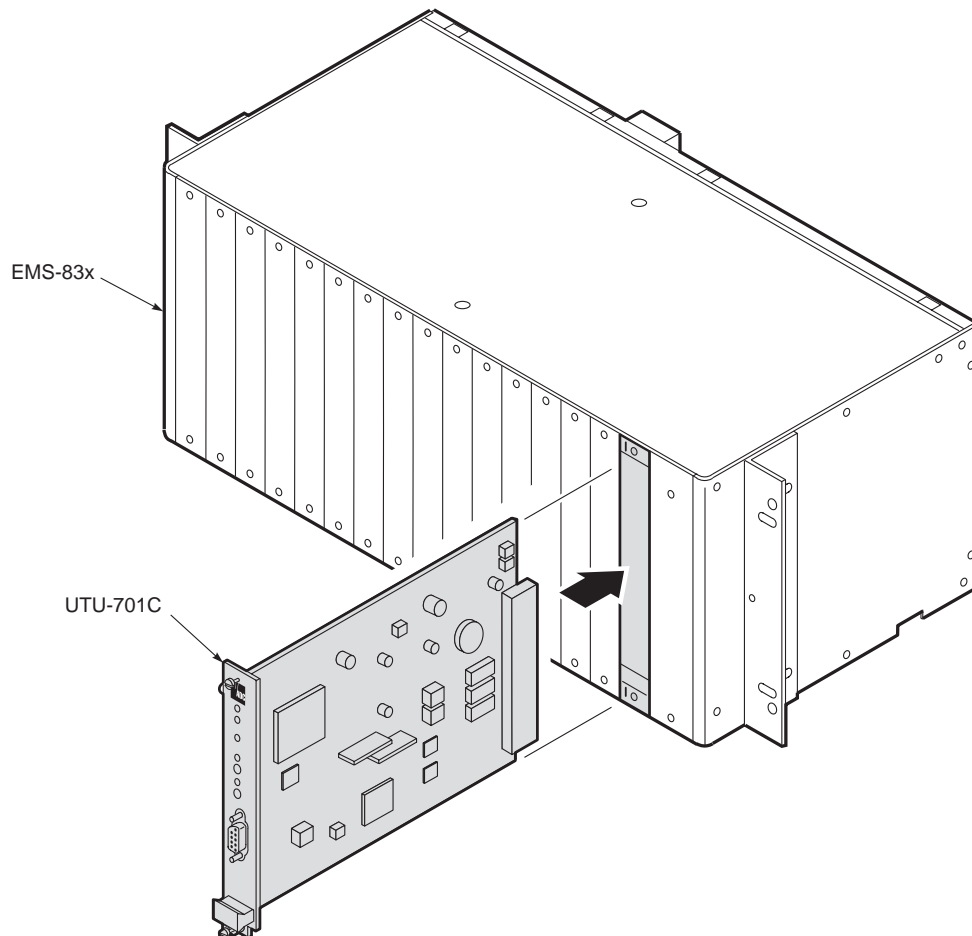

Figure 9. *Installing the UTU-701C Line Unit*
- 1 Align the UTU-701C with the card guides in the shelf or enclosure (see Figure 9).